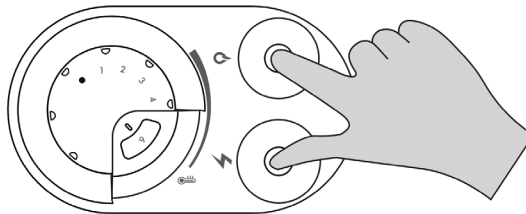

Fig.10
6. Turn the thermostat dial to the high position 6 (see figure 10). counterclockwise to the + position, i.e., to the maximum output.